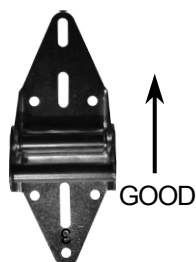

FIGURE 4.1
**4.3.B** Install the three hinges #3 (R). The #3 hinges should be installed so that the number is upside down when you're facing the panel (Figure 4.1). The part with the number should be screwed on the 3rd panel. The top part of the hinge will be screwed on the next panel at the end of step 4.